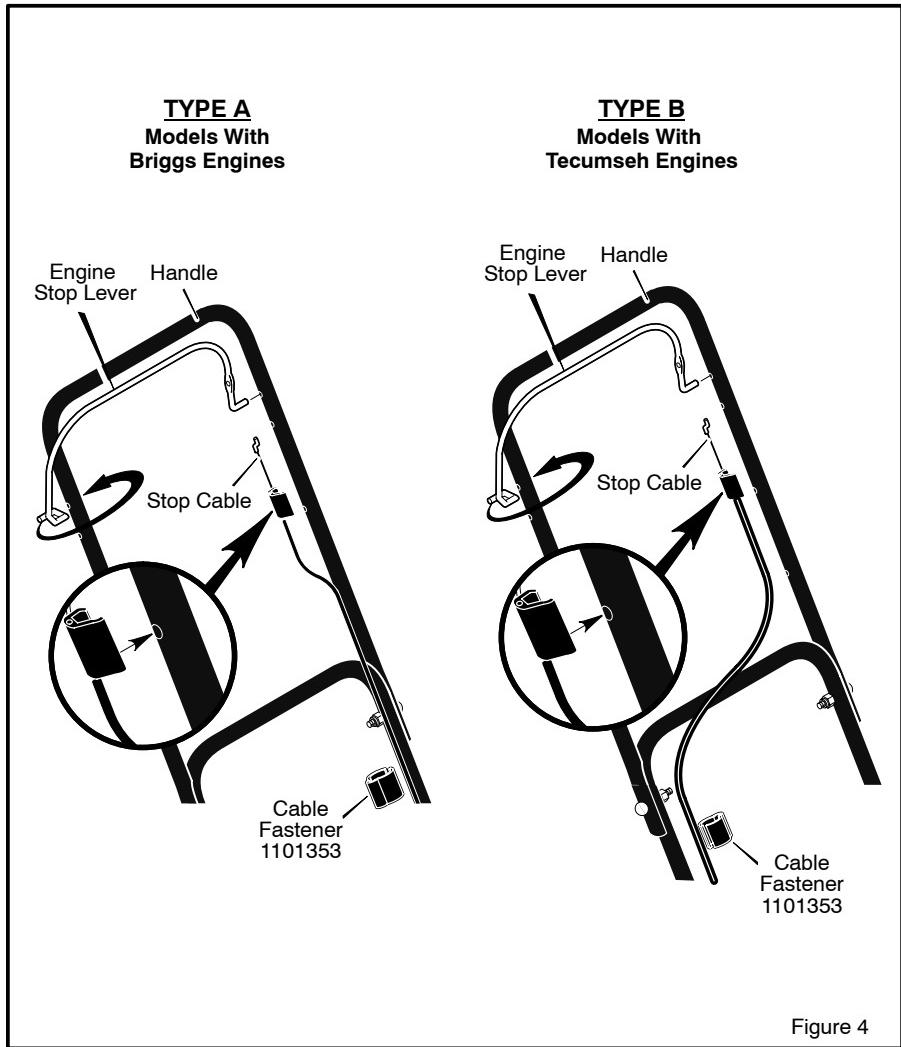

Figure 4
Two types of handles are shown in Figure 4. The engine on your model will determine which type of handle is on your model. **Type A** is for models with Briggs & Stratton engines. **Type B** is for models with Tecumseh engines.
2. Attach the the **stop cable** to the **handle** as shown in Figure 4.
5. Attach the **cable** to the handle with the **cable fastener(s)** as shown in Figure 4.